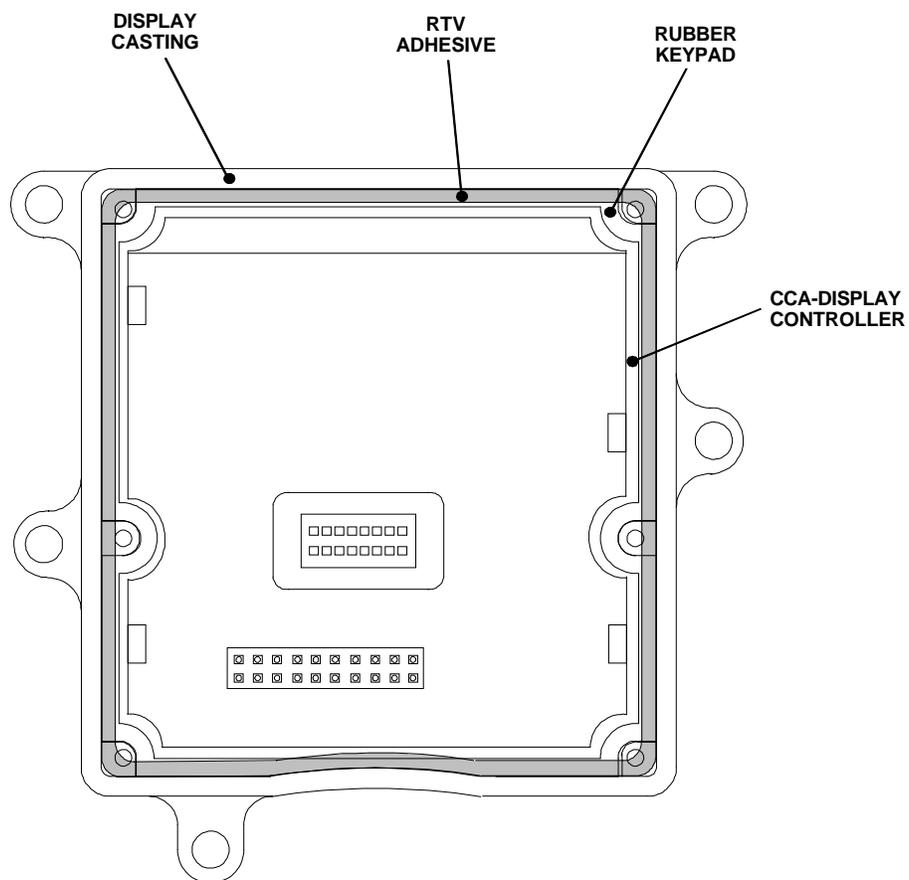

Figure 3. Applying RTV Adhesive to Display/Keypad Assembly.
- (1). Install retained CCA-display controller to replacement rubber keypad. Make sure CCA-display controller is fully seated and rubber keypad overlaps plastic frame around CCA-display controller.
- (2). Install CCA-display controller and rubber keypad into replacement display casting.
- (3). Apply a continuous thin bead of Adhesive, RTV on edge of rubber keypad and display casting. See figure 3.
- (4). Position replacement rear cover to display casting and adhesive bead.
- (5). Using a #0 cross tip screwdriver, install six replacement screws from kit securing rear cover to display casting.
- (6). Remove excess adhesive from display/keypad assembly.
- (7). Let assembly dry face down for four hours before moving.